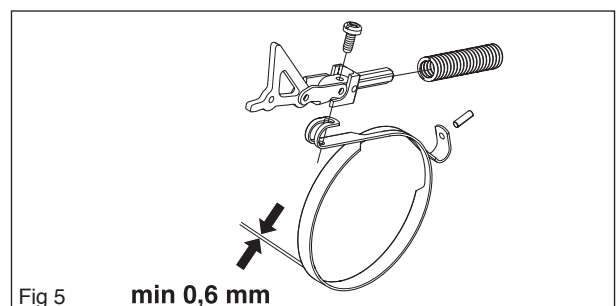
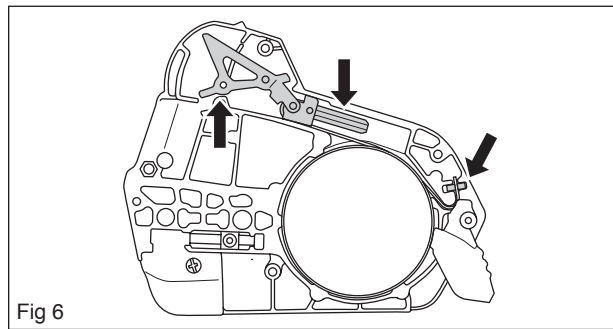

Fig 5
Fig 6
- Measure the thickness of the chain brake band. It must not be less than 0.6 mm in any place. See figure 5.
Screw the knee joint and the brake band together (see figure 5) using a tightening torque of 1-1.5 Nm. Place the knee joint with the fitted chain brake band in the opening in the clutch cover. The space for the spring in the cover must be lubricated with grease. See figure 6.